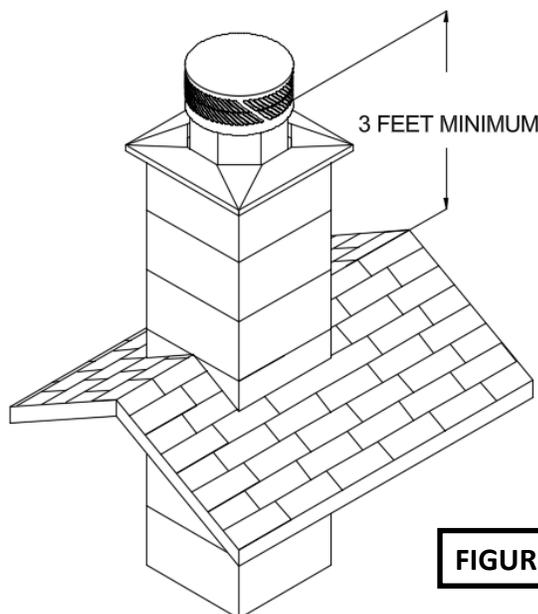

FIGURE 30
- A simple example of this would be if the roof is flat, then the chimney would need to be at least 3' above the roof surface. Or, if the chimney penetrates the roof at the ridge, then the chimney must be at least 3' above the ridge (Figure 30).